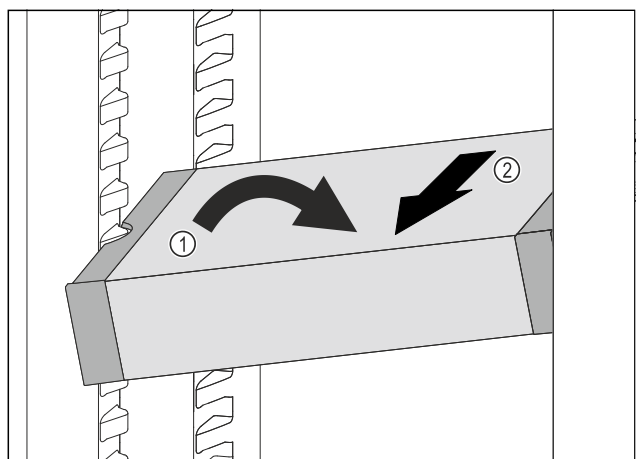

Fig. 125
- ▶ Set VarioSafe in refrigerator compartment at an angle. *Fig. 125 (1)*
- ▶ Take VarioSafe out to the front. *Fig. 125 (2)*